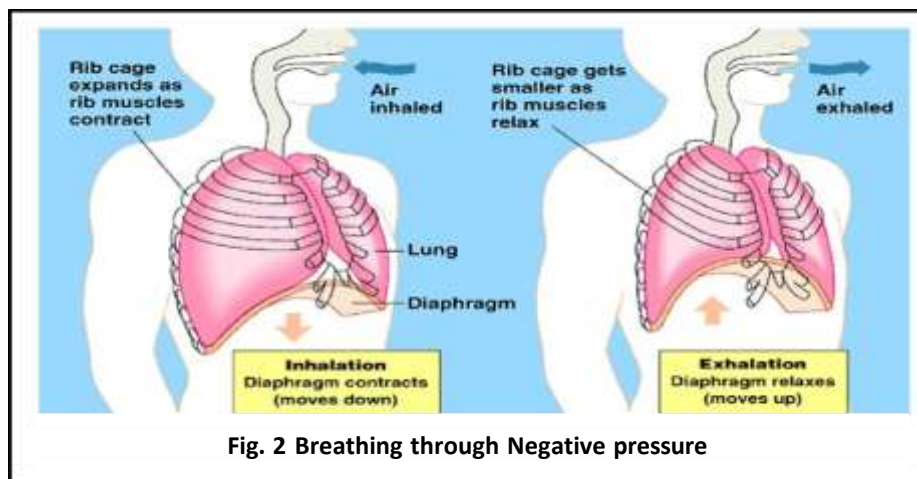

Fig. 2 Breathing through Negative pressure
- Thus, in normal breathing the diaphragm contracts and creates vacuum and causes air to pass inside the lungs.(Fig.2)